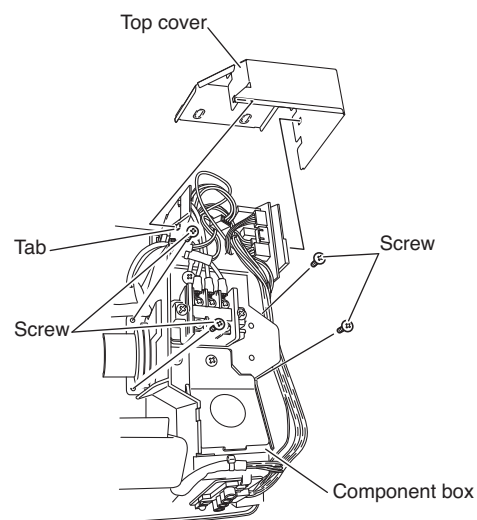

Fig. 1
- (1) Remove the air intake grille.
- (2) Remove the terminal cover. Pull out the thermistor, then remove the grille.
- For details on steps (1) and (2), refer to the Installation Instructions included in the outdoor unit package.
- (3) Disengage the top cover from the tabs on the sides of the component box, then pull the cover toward you to remove it. (Fig. 1)
- (4) Remove the 4 component box installation screws. (Fig. 1)